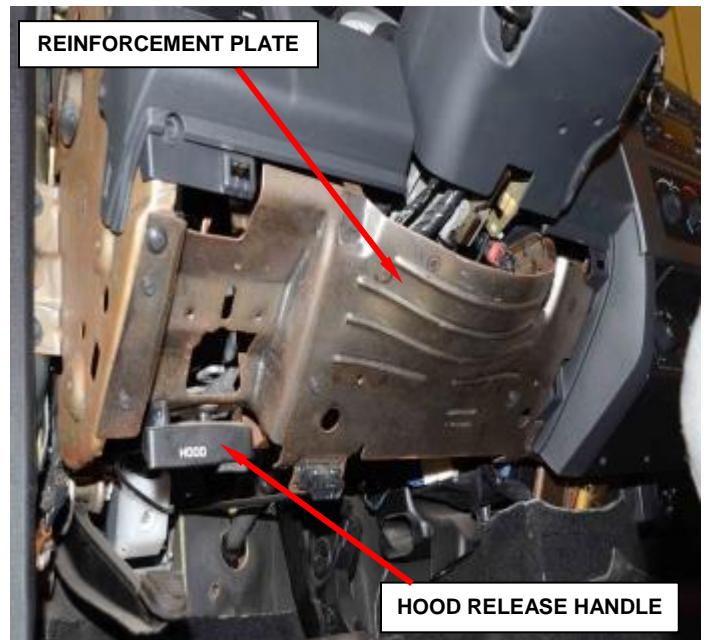

Figure 61 – Steering Column Reinforcement Plate
6. Remove the steering column reinforcement plate (Figure 61).
7. Remove the two hood release handle screws and position the handle to the side (Figure 61).